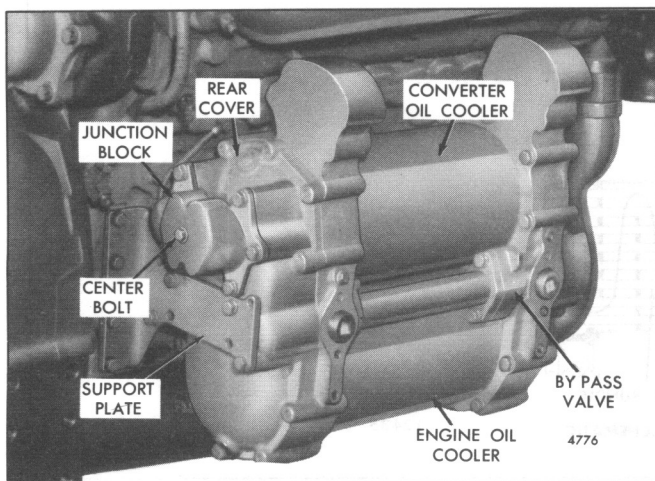

Fig. 11 - Single Tube-Type Oil Cooler Mounting
Certain engines are equipped with a tube-type oil cooler mounted on the side of the engine. Torqmatic converter units use a single basic oil cooler which consists of two sections; one section for the engine oil and the other section for the converter oil (Fig. 11). The Hydraulic Retarder units use a dual oil cooler of which one section cools the engine oil and three sections are used to cool the brake oil (Fig. 12).
A bypass valve (Fig. 11) is provided which will permit the engine oil to flow directly through the oil cooler should the oil filter become clogged.
8. On the single tube type oil cooler (Fig. 11), use a new gasket and attach the junction block to the oil cooler rear cover with six 3/8"-16 x 1" bolts and lock washers. Also install the 3/8"-16 x 2" center bolt and lock washer. Tighten the bolts to 30–35 lb–ft (41–47 N•m) torque.